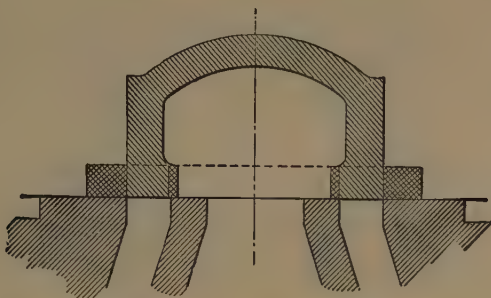

Fig. 137. Slide Valve with Outside and Inside Lap Added.
A. The seat is slightly raised above the bottom of the chest, so that the valve overruns it, as may be seen in the lengthwise section of the valve-seat (Fig. 137). Raising the valve-seat above the bottom of the chest also allows for wear and facilitates planing off.
Q. What is the effect of giving the valve legs or lips a certain lap inside the inside edges of the end ports. (See Fig. 137.)